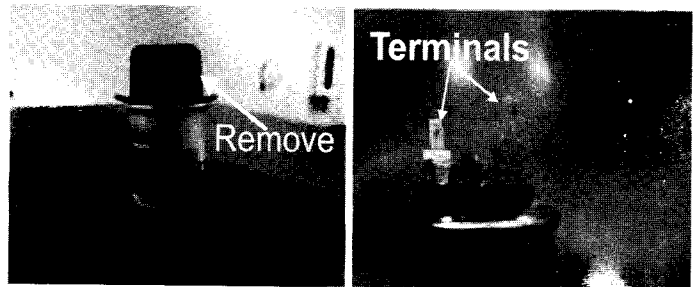

Figure 4
6. Remove the rubber boot from the new capacitor and verify the 1/4 inch to 3/16 inch reducing terminals are installed on the capacitor, Figure 4.